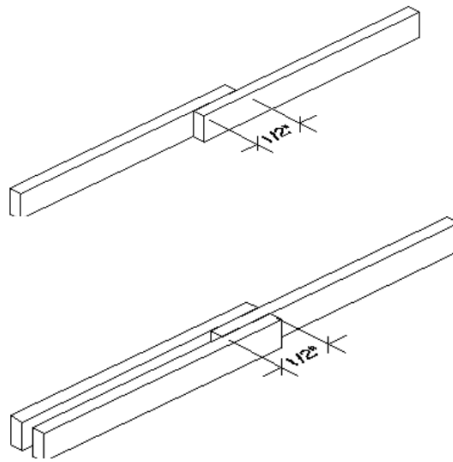

Figure 1: Diagrams of Acceptable Joints
- b. Members are permitted to overlap, but the overlap should not exceed 1/2 inch, as illustrated in Figure 1.